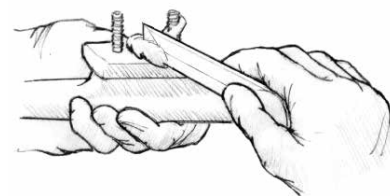

Figure 17 Coat the hardware bottom and the fastener threads with thickened epoxy.
4. Inject a non-sagging epoxy/404 or 406 mixture into the hole. Use enough mixture so there are no voids in the hole after inserting the fastener. Coat the bottom of the hardware and the fastener threads with thickened epoxy (Figure 17).